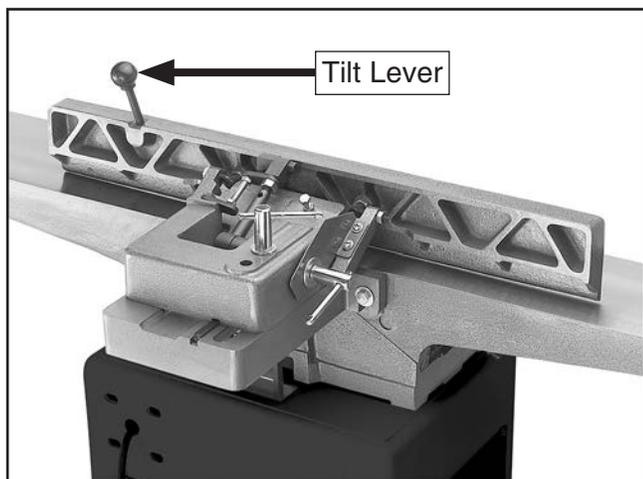

Figure 22. Fence tilt lever installed.
16. Install fence tilt lever (see **Figure 22**).